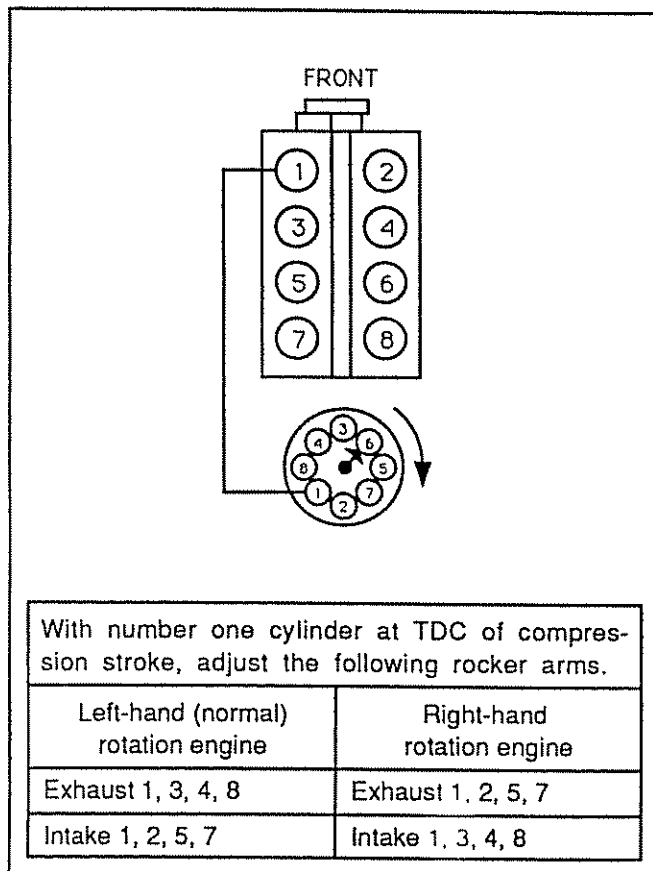

Fig. 8-122 Adjusting Rocker Arms With No. 6 Piston At TDC Of Compression Stroke
5. Crank engine one revolution until pointer "TDC" mark and torsional damper mark are again in alignment. This is No. 6 firing position. With engine in this position, see Figure 8-122 for information on which valves may be adjusted.